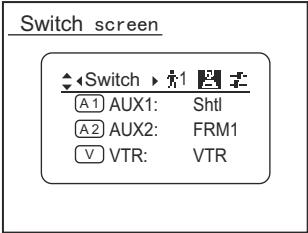

Fig1-4
2. Switch screen  ..... (See Fig. 1-4 below)